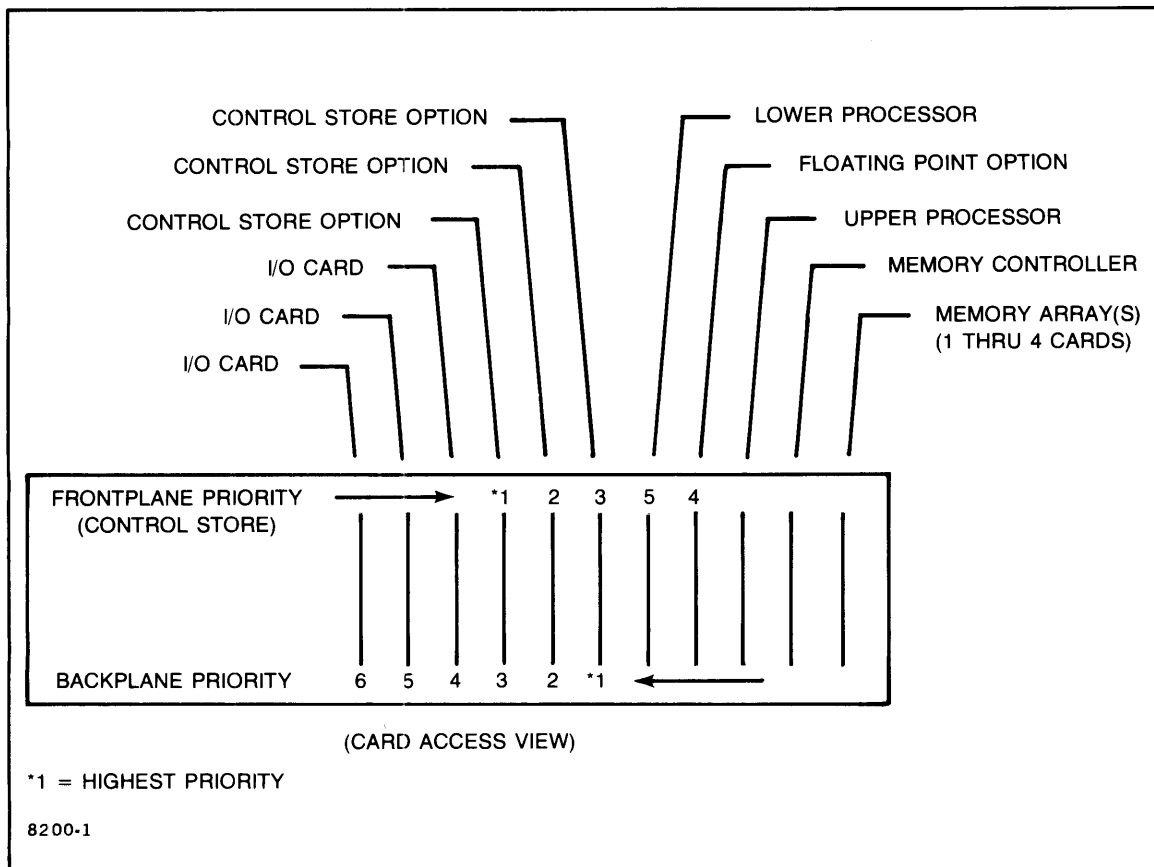

Figure 2-2. Card Cage Loading Diagram
The WCS card mounts in the computer card cage just to the left of the Lower Processor card (see Figure 2-2). Card cage backplane interconnect for the WCS provides I/O system interface and required power, while the flexible control store cable provides address, data, and control interface to the processor frontplane. Operation of the WCS card is under program control, with both programmed I/O and direct memory access (DMA) capability.
- b. Insert the WCS card (component side to the right) just to the left of the Lower Processor card, and in desired proximity to existing control store cards as determined by front plane priority (see Figure 2-2).
As shown in Figure 2-2, there can be no empty card slots between the Lower Processor card, control store cards, and any I/O cards. This is required in order to maintain computer backplane I/O interrupt daisy-chain integrity.